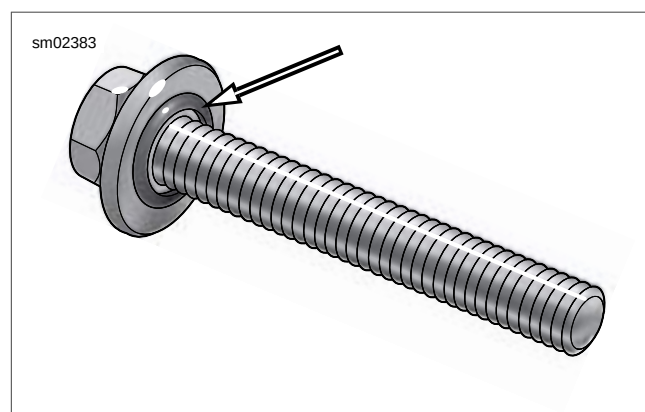

Figure 5-28. Sealing Fastener
4. See Figure 5-28. Insert **new** sealing fasteners.